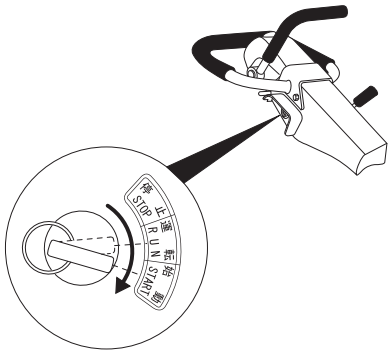

Figure 57. Ignition Switch (START)
- Turn the key further **clockwise** to the **START** position (Figure 57). Once the engine starts, release the key. As the engine speed increases, the buzzer will stop.